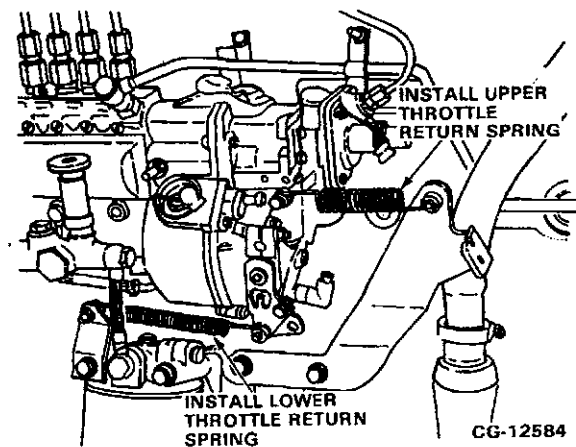

Figure 11.138. Install the Throttle Return Springs (Current Production Shown)
13. Connect the throttle return springs as shown in Figure 11.138.